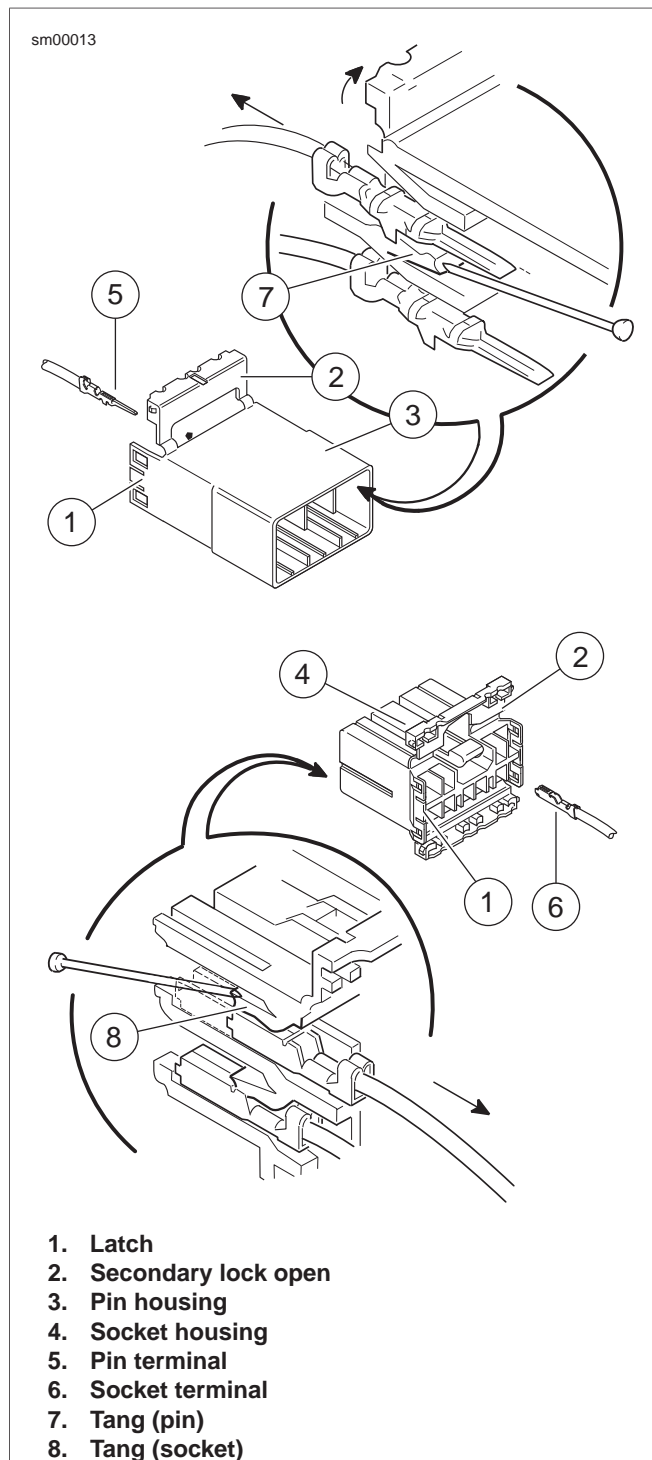
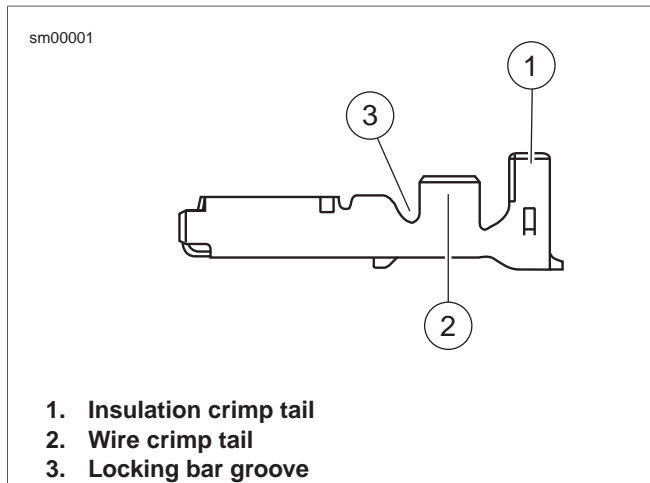

Figure A-2. AMP Multilock Connector: Socket and Pin Housings
Figure A-5. AMP Multilock Connector: Socket Terminal
1. See Figure A-2. Bend back the latch (1) to free one end of secondary lock (2) then repeat on the opposite end. Hinge the secondary lock outward.
2. See Figure A-2 and Figure A-5. Select the pin/socket terminals from the parts catalog and identify the insulation crimp tails (1) and the wire crimp tails (2) and the groove for the crimp tool locking bar (3).
See Figure A-2 and Figure A-5. Hold the terminal with the insulation crimp tail (1) facing up. The tool will hold the terminal by the locking bar groove (3) and crimp the wire crimp tail (2) around the bare wire of the stripped lead and the insulation crimp tail around the insulation.